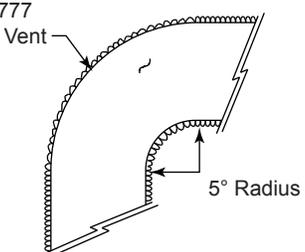

Figure 42 - Minimum Radius for Flex Vent Section
3. Do not allow the flexible vent to bend in radius tighter than 5" (127 mm). *Figure 42*